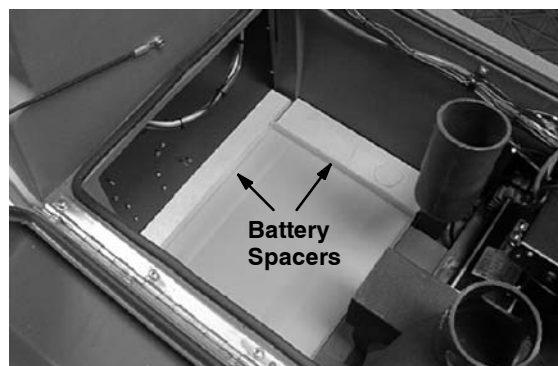

FIG. 1
2. Unlatch and open battery compartment hood. Remove metal seal plate covering battery compartment. Position battery tray and spacers as shown (Figure 1).